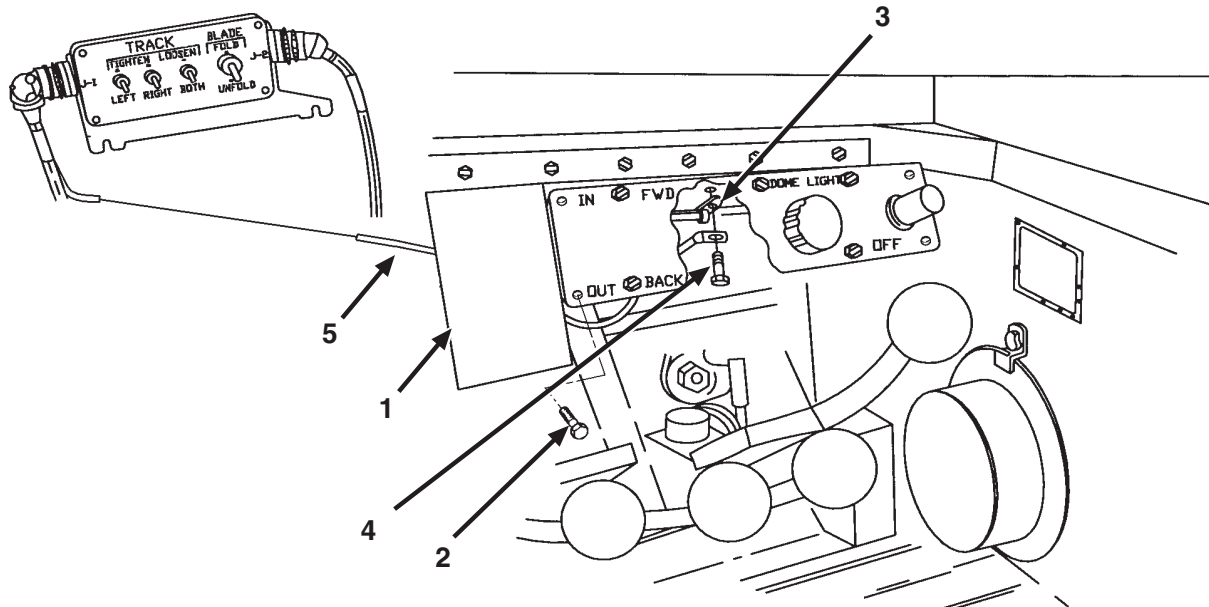

Figure 86. Control Box Power Wiring Harness.
Steps 2 and 3 apply to Figure 86.
5. Disconnect blade folder harness lead #514 (item 10) from control box power harness (item 7).
6. Remove control box power harness (item 7) from behind ejector panel (item 1, Figure 86).